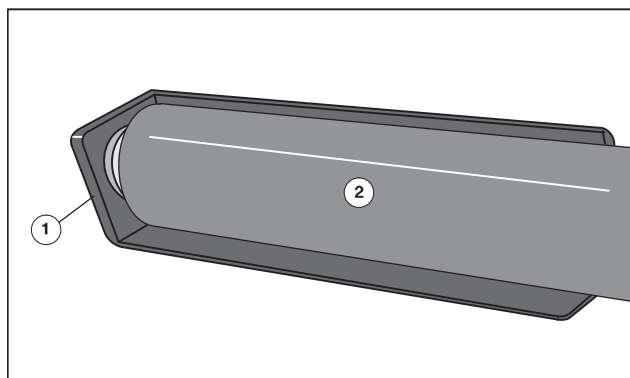

Fig. 81 Attaching the ball bearings
A special tool (angle with welded base plate, Fig. 81/1) is provided for attaching the ball bearings.
2. Place the angle (Fig. 81/1) against the rubber roller (Fig. 81/2).